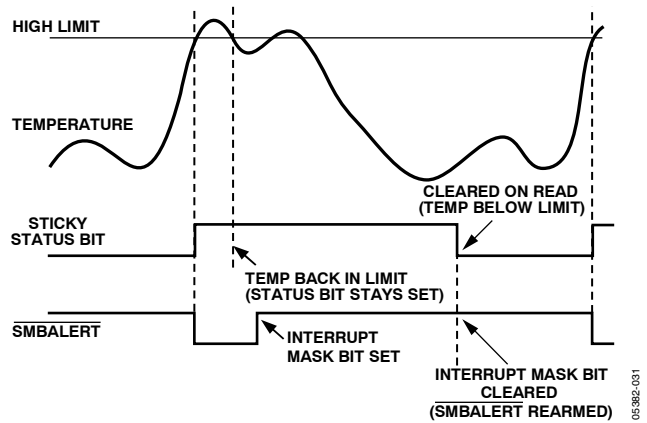

Figure 30. How Masking the Interrupt Source Affects SMBALERT Output
7. Periodically poll the status registers. If the interrupt status bit has cleared, reset the corresponding interrupt mask bit to 0. This causes the SMBALERT output and status bits to behave as shown in Figure 30.